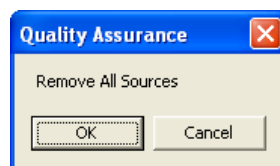

Figure 5-23
- Click the **Start Procedure** button or press *Alt+S* to start the test. The screen appears as shown in Figure 5-23.